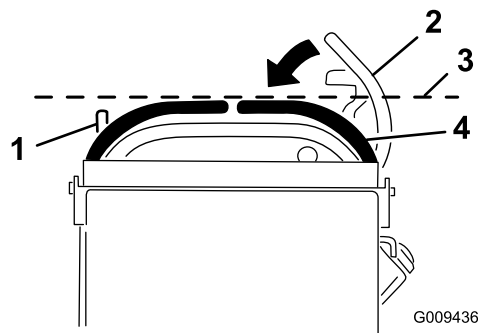

Figure 73
3. Push the motion-control levers down out of the NEUTRAL-LOCK position (Figure 73).
4. Check if the right motion-control lever aligns horizontally with the left motion-control lever (Figure 73).